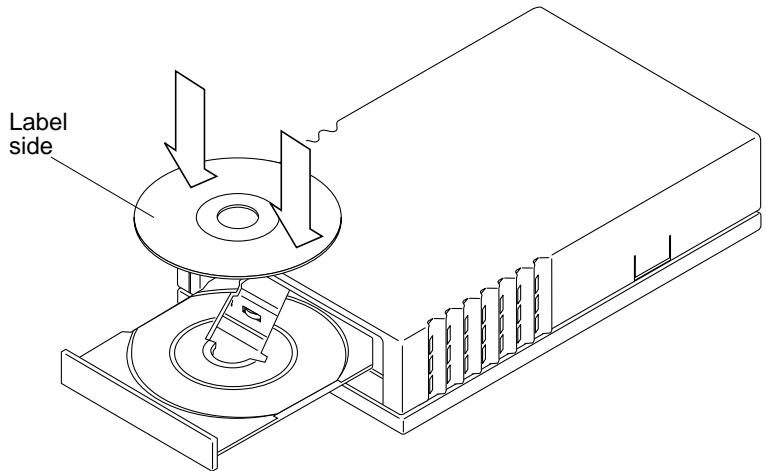

FIGURE 1-1 Inserting a CD into the CD-ROM Drive
2. Place the CD, label side up, into the tray (FIGURE 1-1).